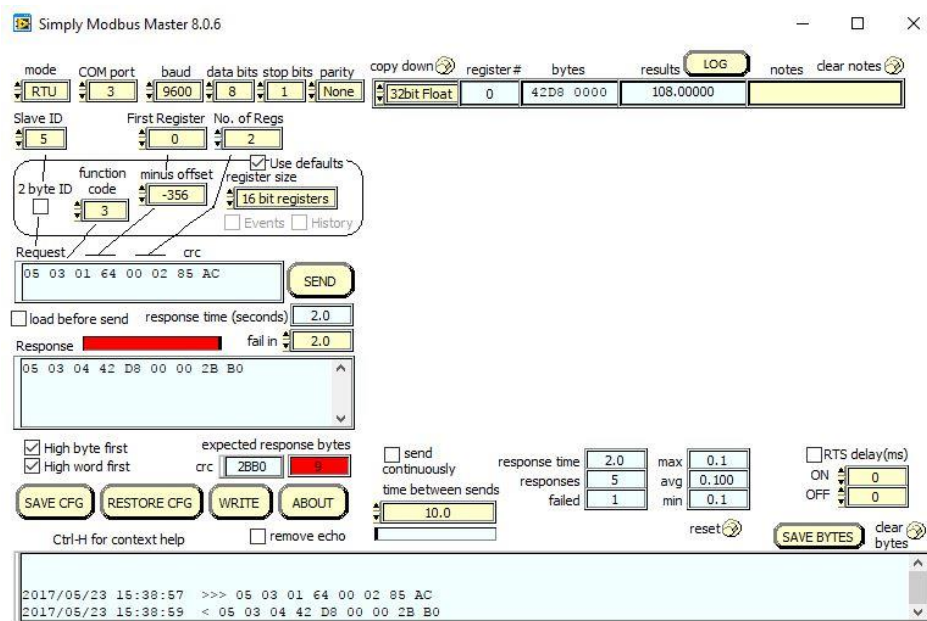

Figure 7. Example for function code 03
From figure 7, the response data is "05 03 04 42 D8 00 00 2B B0". The responded parameter value (PV) will be also displayed on the right top (108 degree).